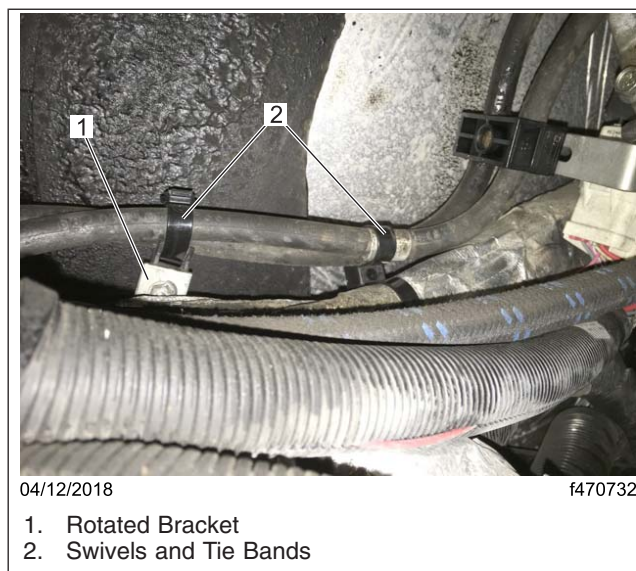

Fig. 6, Attaching the Hoses to the Rotated Bracket
6. Attach the hoses to the rotated bracket. If the bus is equipped with optional rear air conditioning (A/C), ensure that the rear A/C hoses are secured and not rubbing the fuel lines. See Fig. 6.